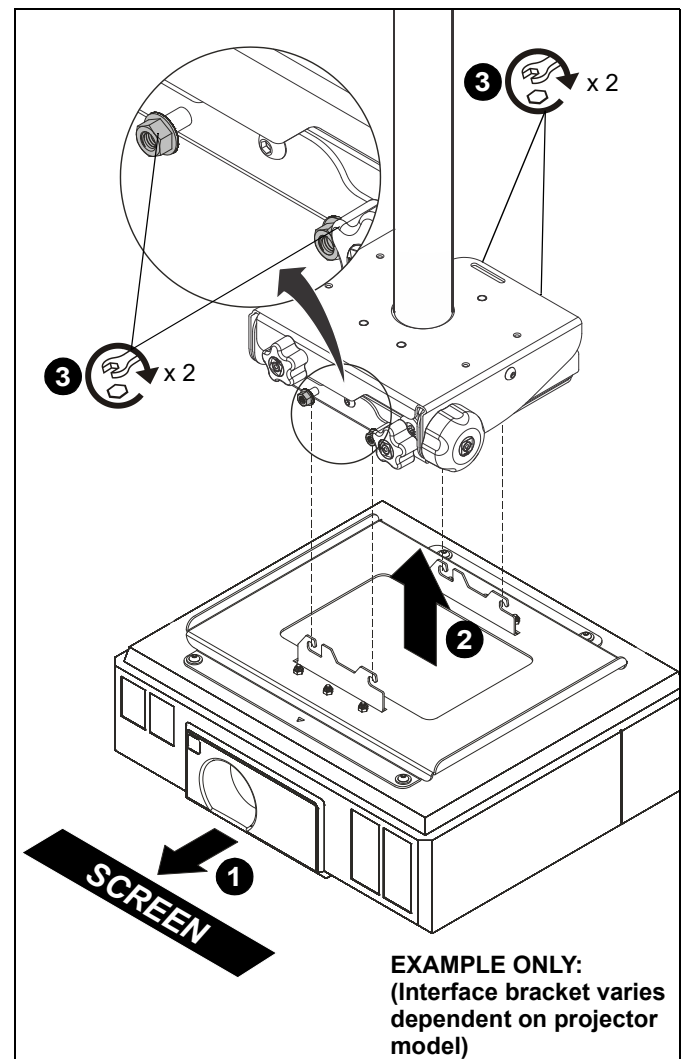

Figure 3
- Orient projector with attached interface bracket so that it is square to the screen. (See Figure 3)
- Lift the projector and install it behind the flange nuts on the four studs extending from the VCT housing. (See Figure 3)
- Tighten the flange nuts on the four studs. (See Figure 3)